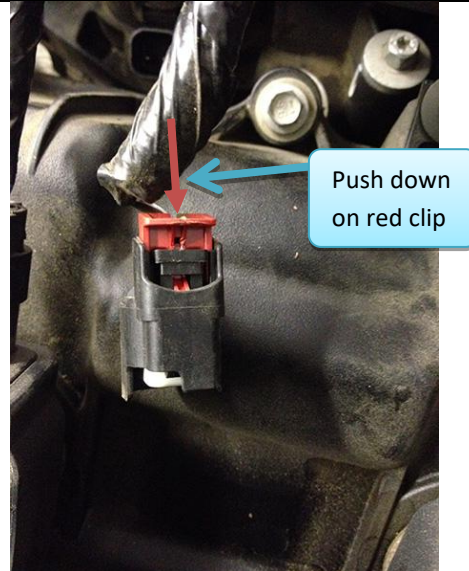

Figure 40: Fuel injector connector with red lock up (unlocked).
- 26.1.1. Push down on red clip to lock it on (Figure 40)